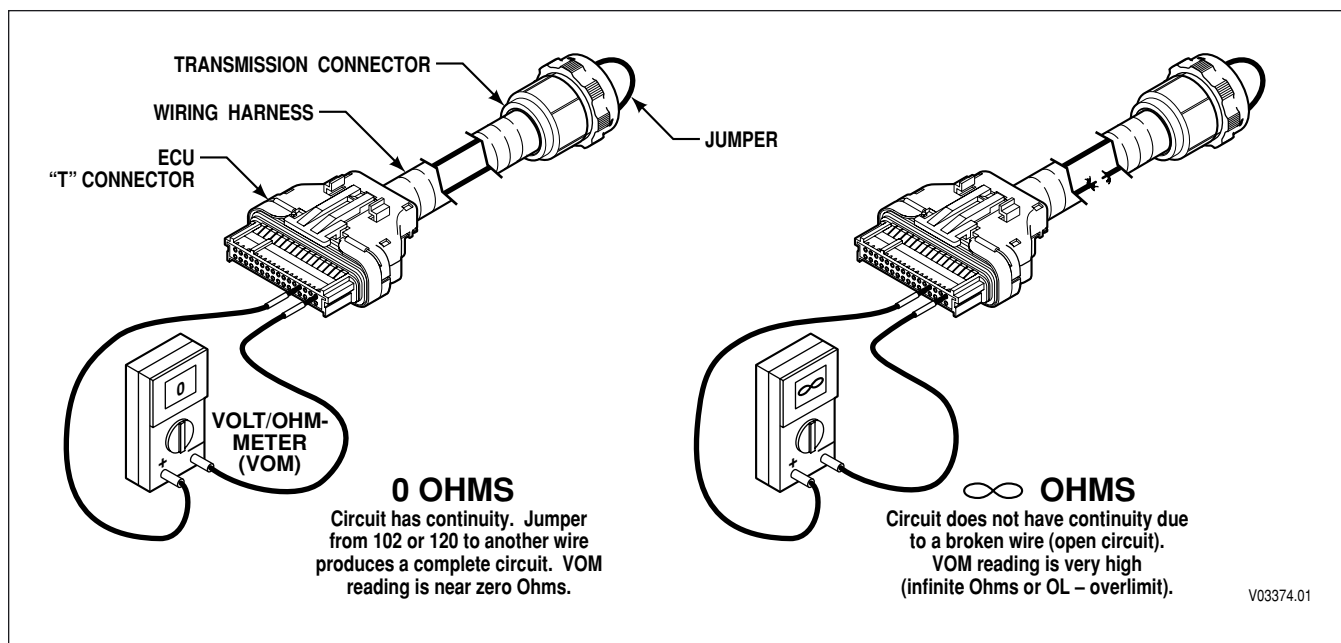

Figure 3–1. Open Circuit
- a. Test continuity of wires 102-T1 and 120-T4 by performing the following (refer to Figure 3–1):
- (1) Disconnect the blue “T” connector from the ECU and disconnect the harness from the transmission main connector. At one end of the harness, using jumper wire kit J 39197 and connector probes in J 39775-CP, connect wire 102-T1 and 120-T4 to each other, being careful not to distort the terminals. Jumpering the wires together creates a circuit between wires 102-T1 and 120-T4.
- (2) On the opposite end of the harness, test the continuity of the jumpered pair. No continuity in a jumpered pair circuit (infinite resistance reading) indicates an open in the wire being tested. Locate and repair the damaged portion of the wire.
- b. If the continuity test is good (0–2 Ohms resistance), remove the jumpers. Test the harness for shorts between wires and shorts-to-ground by performing the following (refer to Figure 3–2):
- (1) At the ECU end of the harness, touch one VOM probe to one wire of the circuit being tested and touch the other probe to each terminal in the same connector, then touch the probe to chassis ground and to the transmission main housing. Do this for both wires in the circuit being tested.
- (2) If at any time the VOM shows zero to low resistance, or the meter's continuity beeper sounds, there is a short between the two points being probed—wire-to-wire or wire-to-ground. Isolate and repair the short.